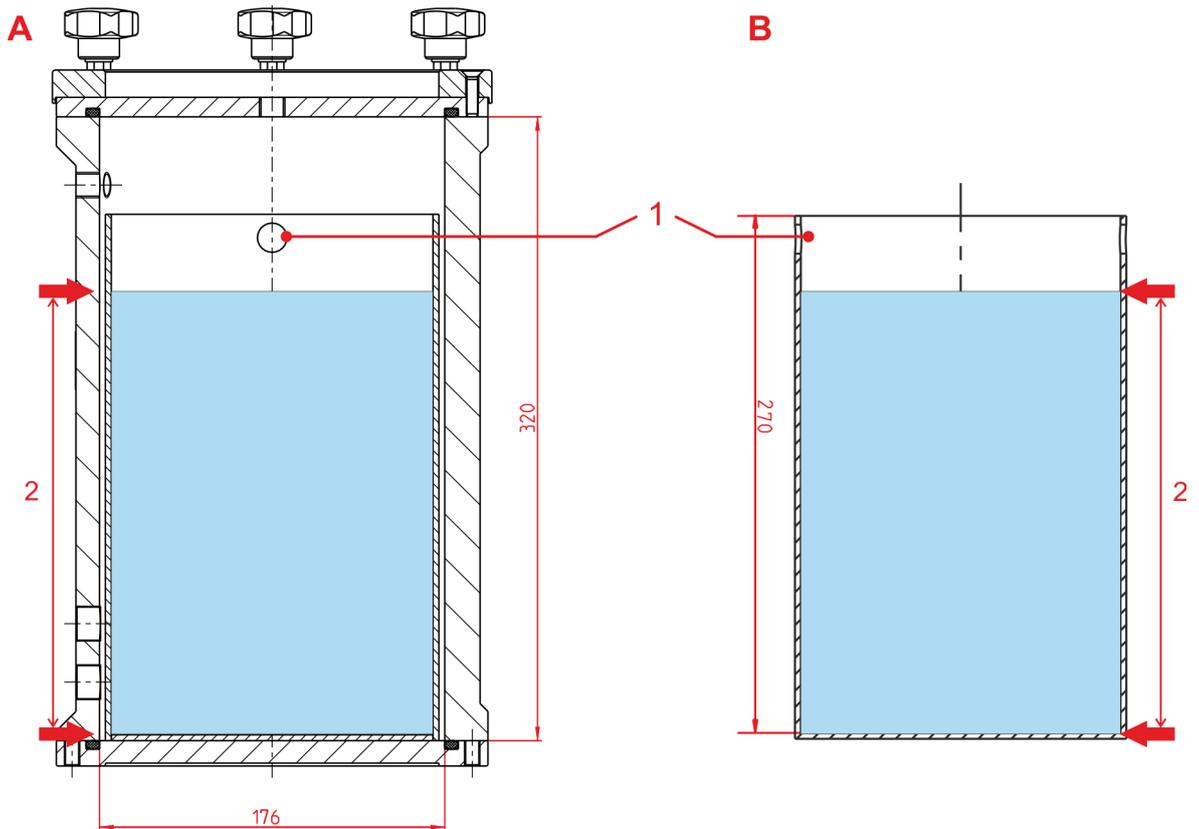

Fig. 4: Maximum filling
The vessel may be filled only up to max. 2 cm below the inner vessel borehole (Fig. 4, item 1 and item 2), to avoid the product flowing back into the pressure pipeline system!